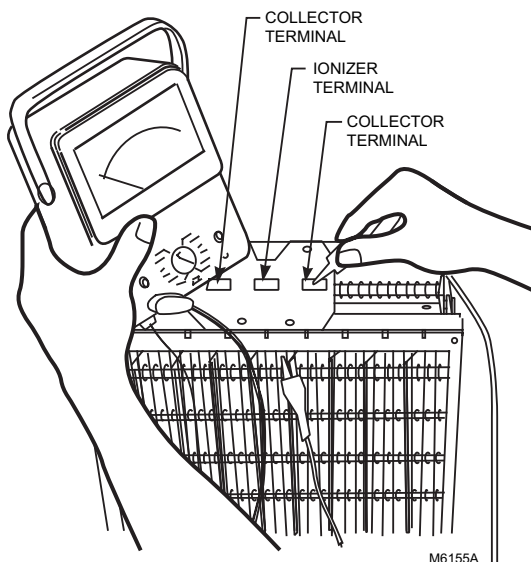

Fig. 21. Use an ohmmeter to check electronic cell(s) for short circuits.
- Ohmmeter with 25 kVdc probe (Fluke model 80K -40 H.V. or equivalent). See Fig. 21.